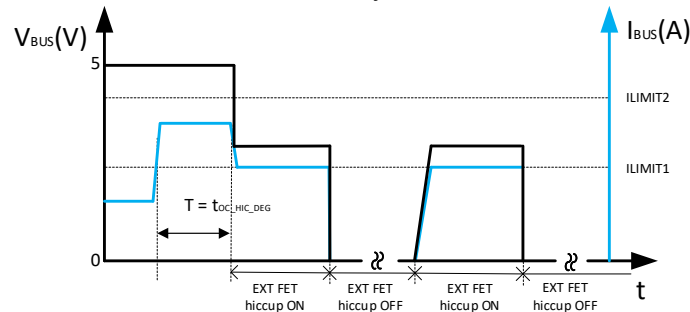

Figure 10-19. Two Level Current Limit Methodology with ext MOSFET Case 2
- Case 2: If the load current I_{BUS} is in the range $I_{LIMIT2} > I_{BUS} > I_{LIMIT1}$ and the duration $> t_{OC_HIC_DEG}$, the external MOSFET will current limit to I_{LIMIT1} , then enter hiccup mode with 2 ms of on-time and 263 ms of off-time, as shown in Figure 10-19. When the load current decreases below I_{LIMIT1} and continues $> t_{OC_HIC_RST}$, the external MOSFET will resume always on.